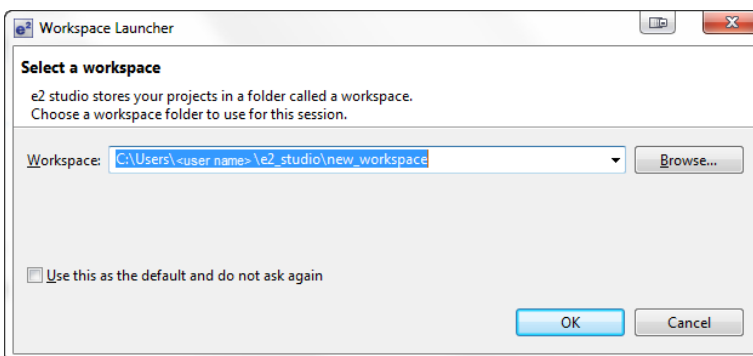

Figure 2.2 Workspace Launcher dialog
- B. Enter a new workspace name in the Workspace Launcher dialog as shown in Figure 2.2. e2 studio creates a new workspace with this name.